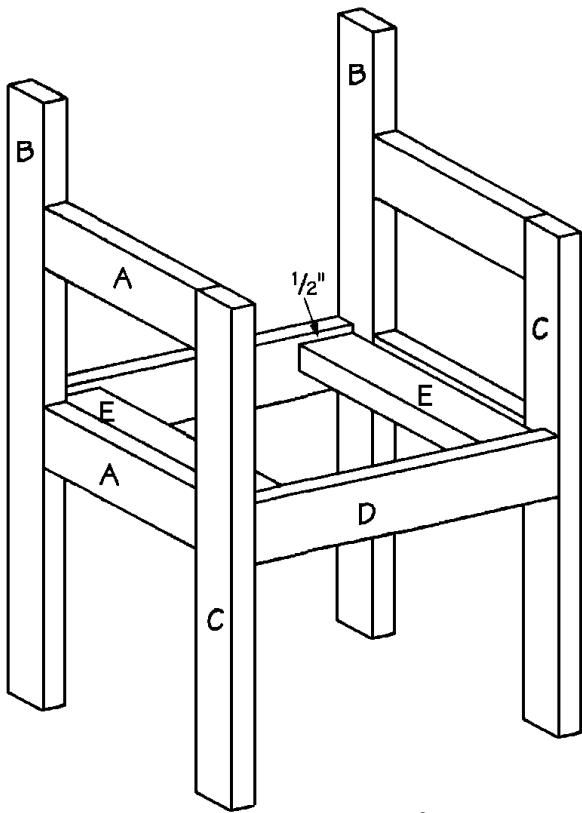

Figure 3
3. Turn the assembly upside-down, and attach the remaining Outer Seat Support (D) to the opposite side of the side assemblies, in the same manner that you used in Step 2.
4. Cut two Inner Seat Supports (E) from 2 x 4 pine, measuring 19-1/2 inches long.
5. Fit one Inner Seat Support (E)--wide surface up--between the two Outer Seat Supports (D), 1/2-inch below the top edge of the lower Horizontal Side (B), as shown in *Figure 3*. Screw through both of the Outer Seat Supports (D) into the ends of the Inner Seat Support (E) using two 2-1/2" screws. Also screw through the lower Horizontal Side (B) into the edge of the Inner Seat Support (E) using three 2-1/2" screws spaced evenly along the joint.
6. Repeat Step 5 to attach the remaining Inner Seat Support (E) on the opposite side of the chair.